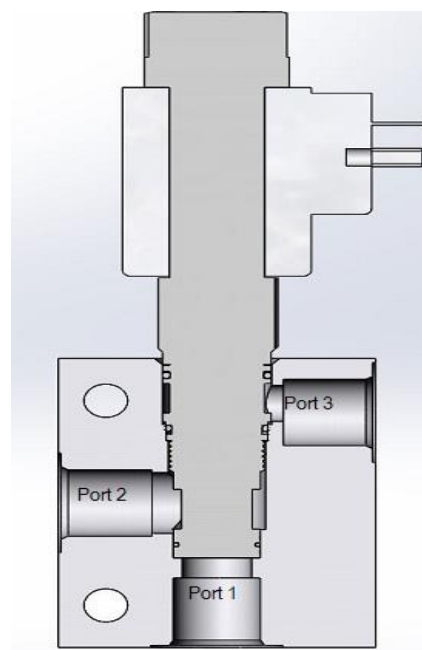

Figure 243
2. The tilt valve has a solenoid that is activated by the display box. This valve has three ports. With no power to the valve oil flows from port 2 to port 1. When power to the solenoid is applied a spool shifts and send oil to port 3. Figure 243. The oil flows as follows: